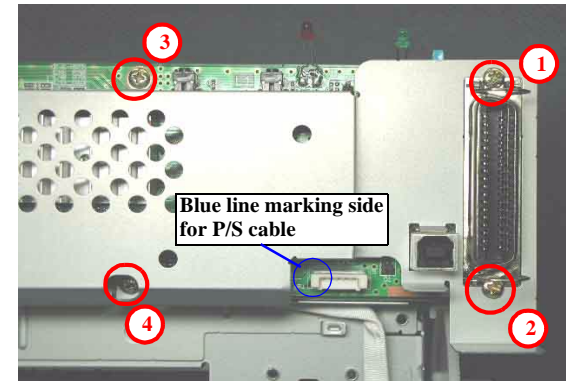

Figure 4-43. Circuit board assembling
- Make sure to connect all cables to the connectors (CN2, CN4, CN7, CN8, CN9, CN12) on the Main board in the correct direction. (Refer to Figure 4-43)